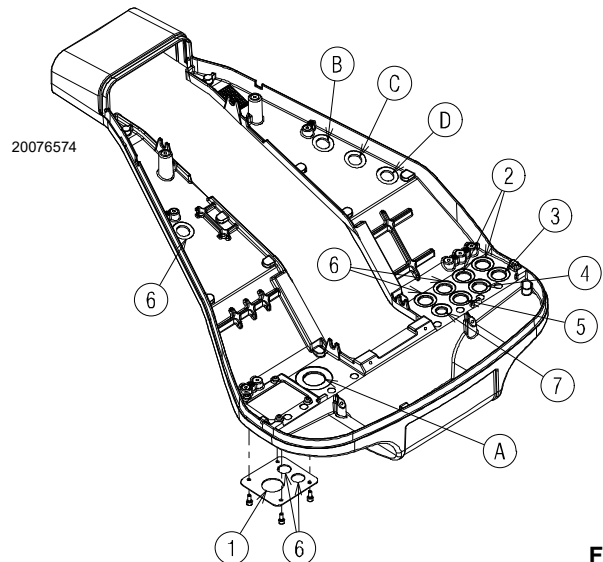

Fig. 27
The values shown in Fig. 24, Fig. 25, Fig. 26 and Fig. 27 refer to:
- Find, in the Fig. 24, Fig. 25, Fig. 26 and Fig. 27 for the chosen burner, the pressure value closest to the result of the subtraction.
A pressure of 53.1 mbar, corresponds in the Fig. 24, Fig. 25, Fig. 26 and Fig. 27 to an output of 4450 kW.
- find the nearest output value in the Fig. 24, Fig. 25, Fig. 26 and Fig. 27 for the chosen burner.
All the cables to be connected to the burner must be threaded through cable grommets. The use of the cable grommets can take various forms; by way of example see Fig. 27.
Key (Fig. 27)